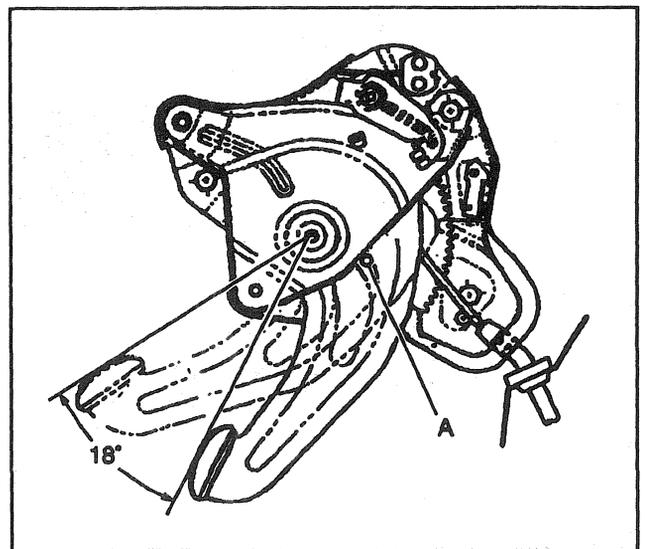

Figure 4—Parking Brake Adjustment Setting
- Insert a 3 mm (.125 inch) pin into locating hole (A) in the pedal assembly (Figure 4). Push the pedal downward until the pin contacts the parking brake outer flange.
⌚ Adjust (Figures 4, 5 and 6)
- Insert a 3 mm (.125 inch) pin into locating hole (A) in the pedal assembly (Figure 4). Push the pedal down until the pin contacts the parking brake outer flange.